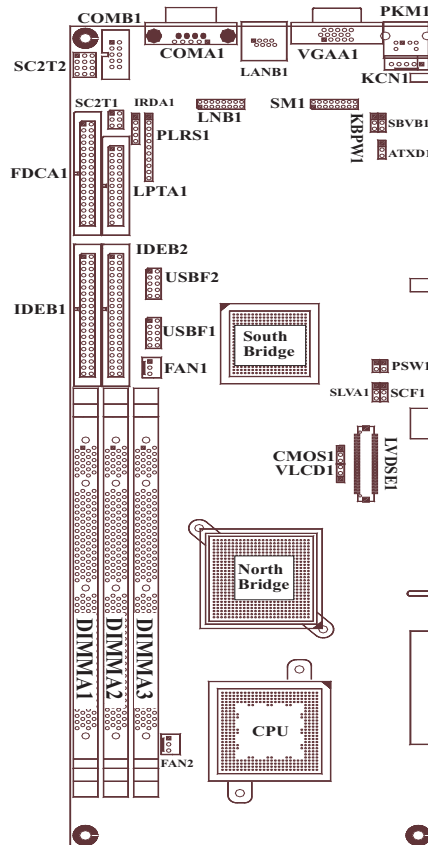

Figure 4-6. SBC Board and Ribbon Cable Connectors
- 3 Disconnect the four ribbon cables from the SBC. (See Figure 4-6.) Depending on your configuration, you may not have all four ports in use.
- 5 Remove the power connection from the fanned heatsink on the SBC (Figure 4-6).